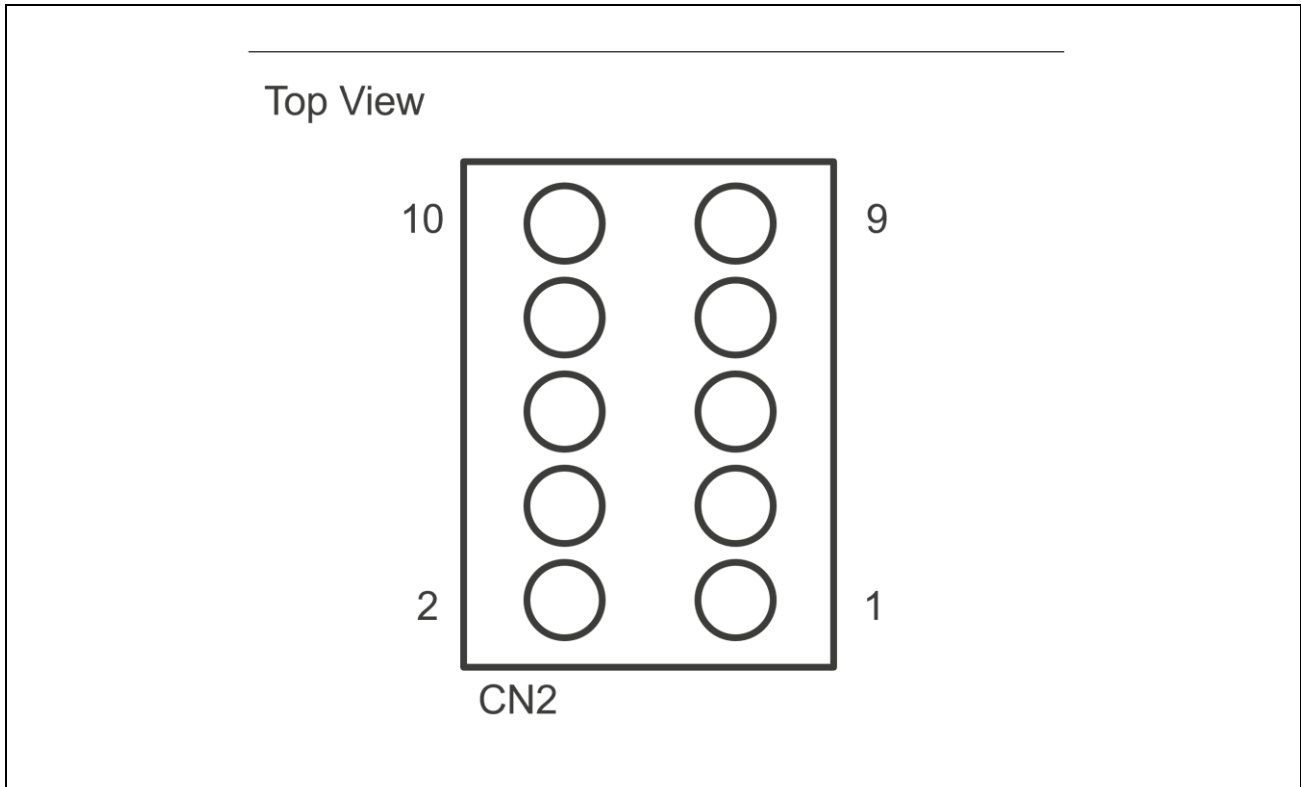

Figure 3.3 JTAG Connector (CN2) Pin Layout Diagram
**Figure 3.3** illustrates the layout of the connector pins. **Table 3.2** shows the assignment of the connector pins.